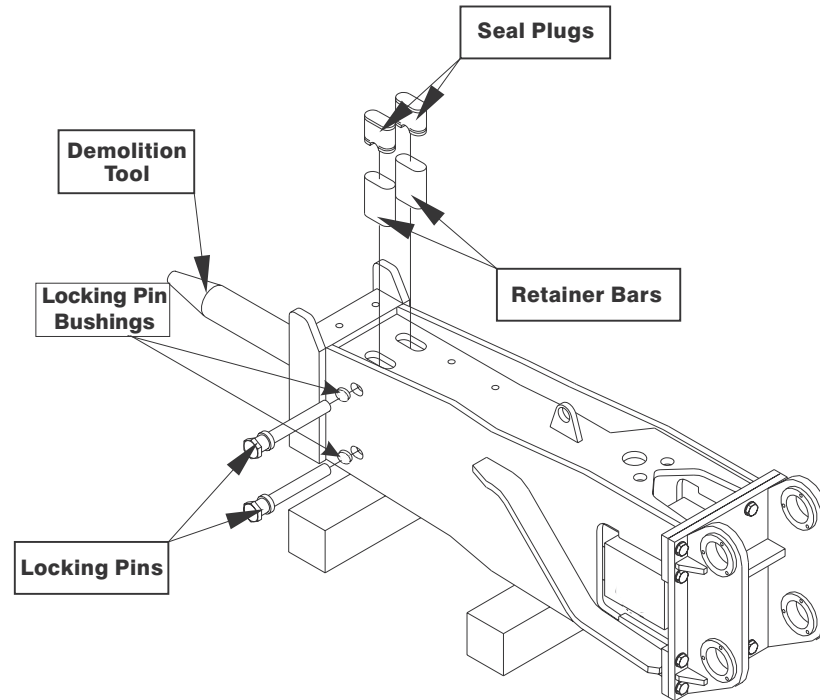

Figure 8-1. Installing Tool with Locking Pins
8.3.1 Locking Pin Style - Installation (Refer to Figure 8-1.)
2. Using drift and hammer, remove the locking pins. When facing the top of the Hy-Ram, drive the pins out through the right side. See Figure 8-1.
1. Remove the Hy-Ram from the carrier and place the Hy-Ram in a horizontal position to allow access from below. See Figure 8-1.